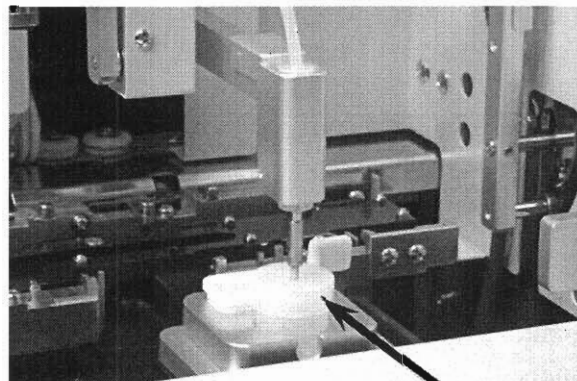

Figure 2-K
14. Remove the waste bottle by gently raising the mounting medium dispenser and empty the bottle into a container designated for solvent waste. It is now necessary to place the metal tray ① (Fig. 2-K) accommodating the nozzle reservoir and plastic waste tray, as these items are necessary for operation.